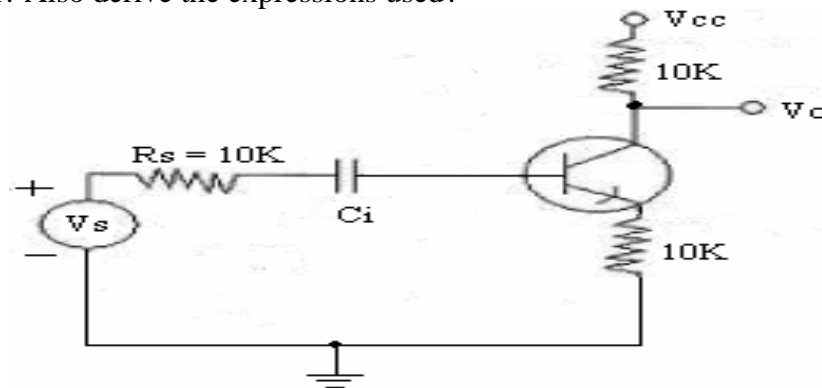

Figure.1
- 3.a) Draw the circuit diagram of NPN transistor in Common Emitter(CE) configuration. With neat sketches and necessary equations, describe its static input-output characteristics and clearly indicate the cut-off, saturation & active regions on the output characteristics?
- 5.a) In the amplifier circuit shown in Figure.1, estimate input resistance and voltage gain? Also derive the expressions used?